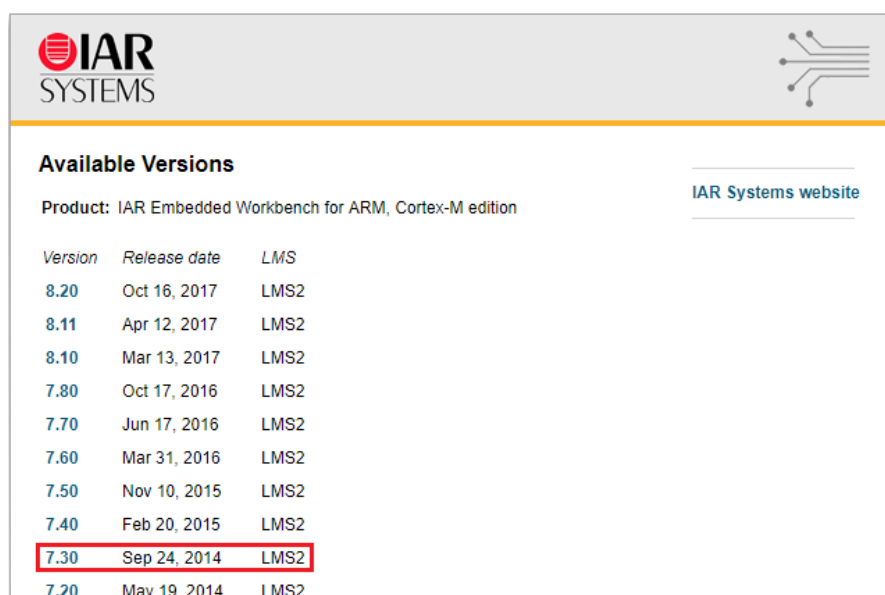

Figure 4: Checking Version of IAR Embedded Workbench
4. Click on **7.30** to go to the download page. See Figure 4.